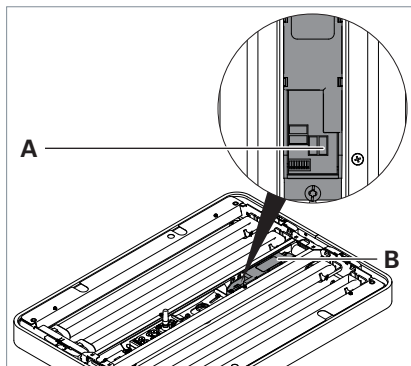

Fig. 4: Interface for dimmable luminaires and luminaires with HFMD sensor
- For luminaires with **HFMD sensor**: Connect the other end of the connecting line to the interface **A** "PULSE/EIB" at the luminaire control **B** in the luminaire head, see Fig. 4.
- For **dimmable** luminaires: Connect the other end of the connecting line to the interface **A** "R/Tx" at the luminaire control **B** in the luminaire head, see Fig. 4.